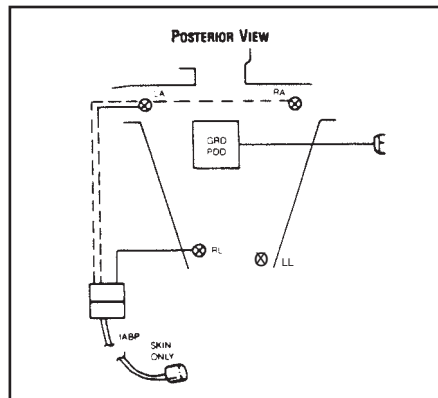

Figure 5.5: Placement of ECG and ESU Cables
2. Keep the ECG electrodes and patient cables out of the sterile field. (see Fig. 5.5)